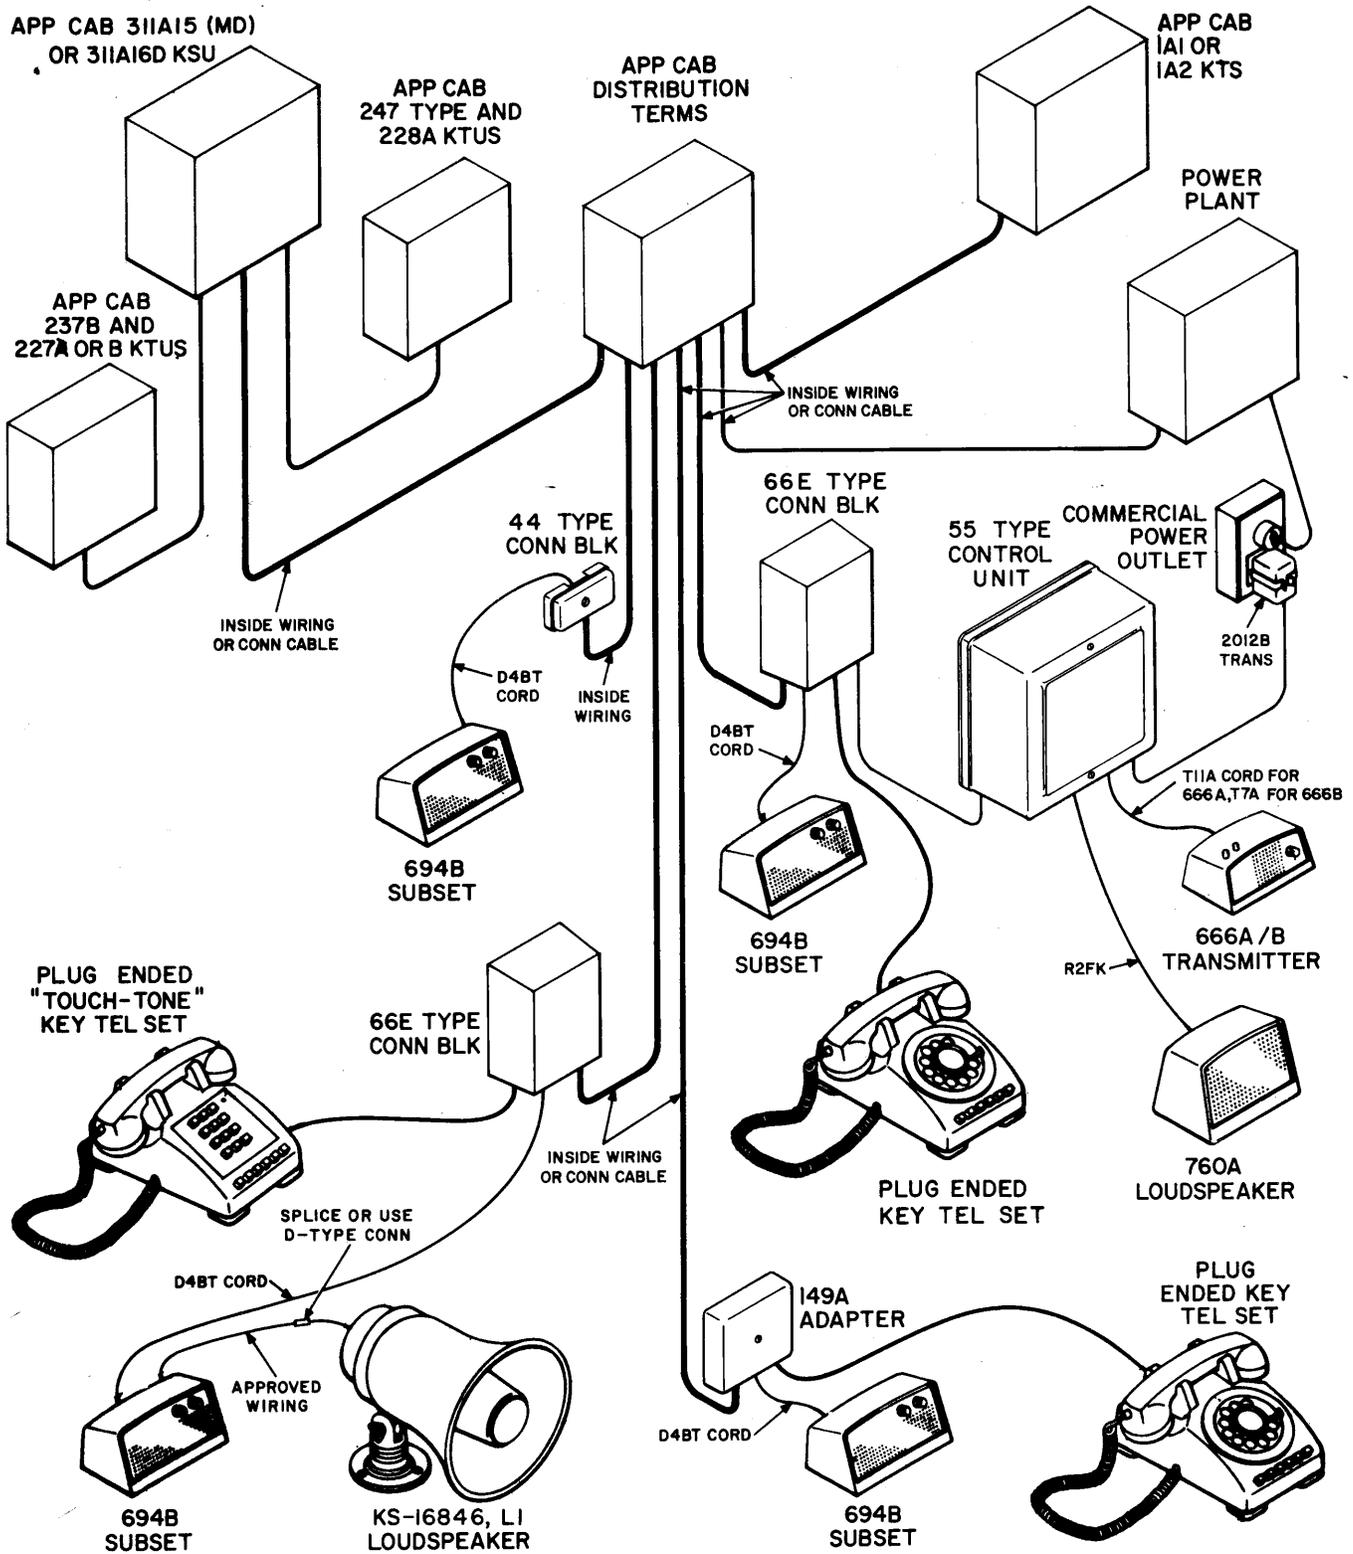

Fig. 5—Layout of Typical 2A Communication System Installation Equipped With 3-Type Speakerphone
- (a) Separate mounting facilities must be provided for the optional components (Fig. 5). No provision is made for their inclusion in the KSU.
- (1) Install one 237B KTU for each line to be bridged to the system. A 227-type KTU